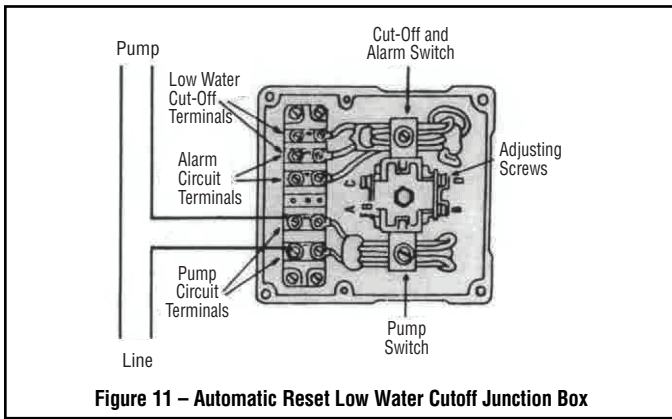

Figure 11 – Automatic Reset Low Water Cutoff Junction Box
2. Checking operation of pump switch. (Figure 11) With water level visible in sight glass, partially open drain valve at bottom of boiler. If automatic blowdown supplied, push manual blowdown switch until valve open light is on, hold for few seconds. Water level will fall, allowing float to trip pump switch to "ON" position. Close drain valve or release manual blowdown switch. Pump motor or solenoid valve will energize and water level will resume to normal level in sight glass.